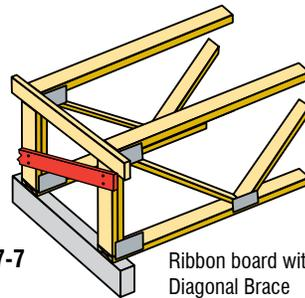

FIGURE B7-7
- ✓ For Bottom Chord Bearing Trusses, TCLR at Truss ends are not required if Blocking panels, Ribbon board or Rim board are used. See details in Figures B7-7, 8 and 9.